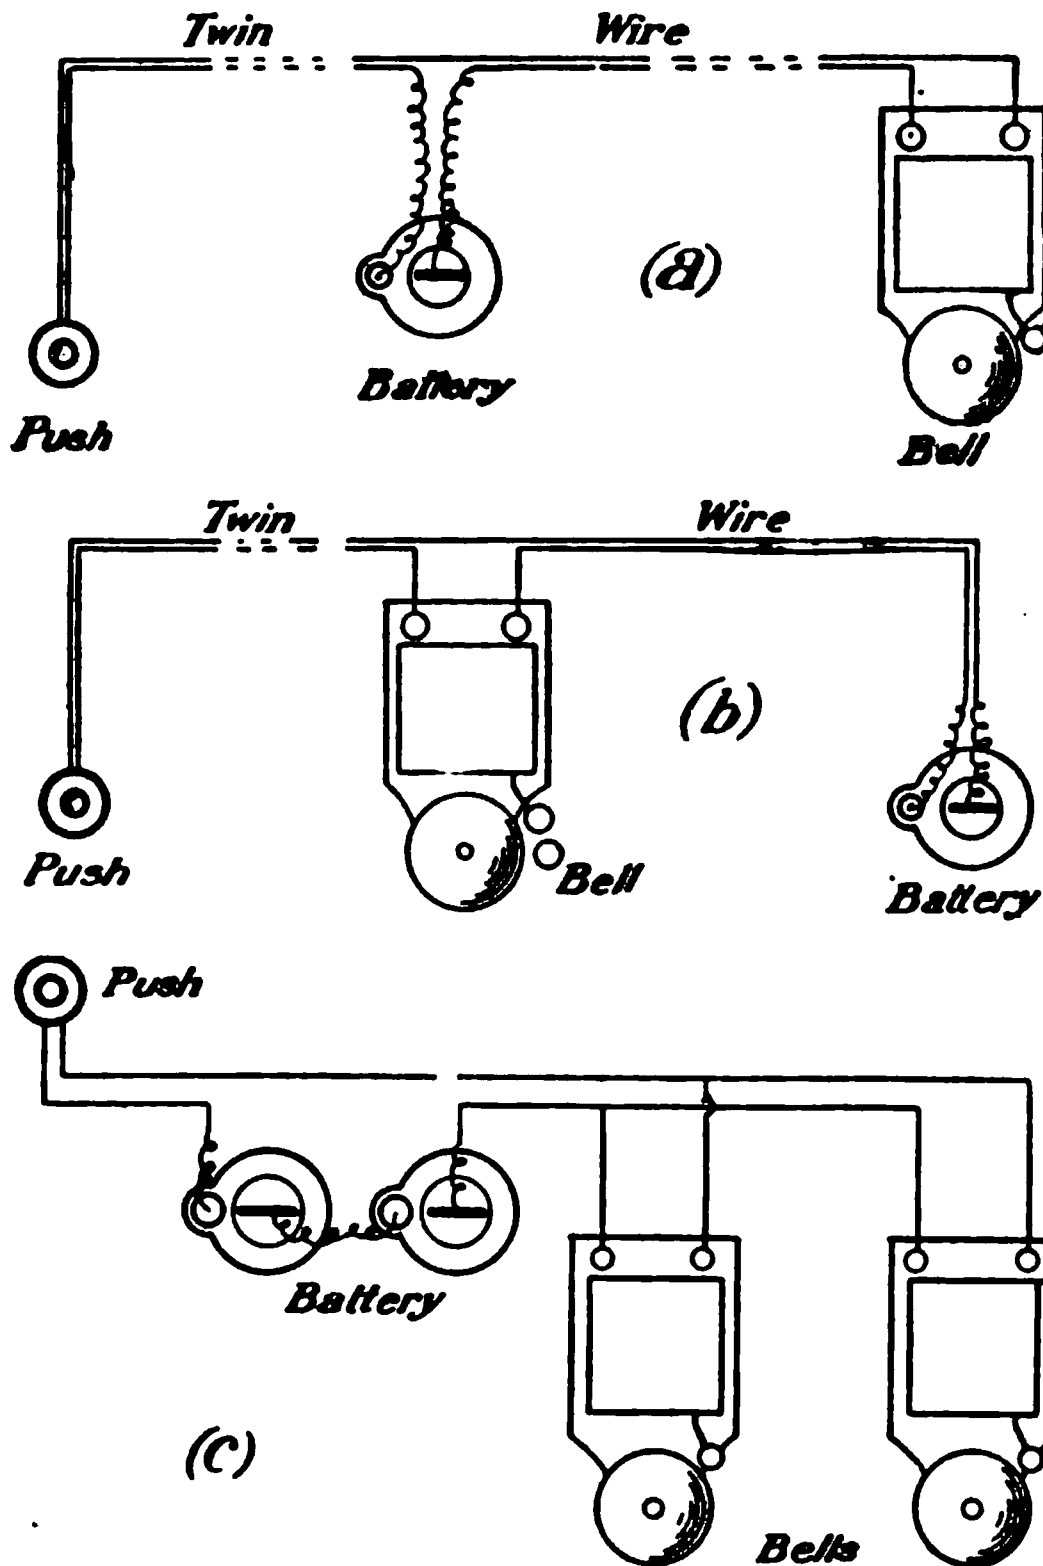

Fig. 120.—Electric-bell connections.
*Wire.*—The cheapest grades of insulated wire are to be avoided, as likely to give trouble. For single-circuit installations "twin" wire, with two wires separately insulated, but laid side by side (not twisted) in a common insulating cover, will be found most convenient. In a more elaborate installation it is advisable to use single wire throughout, reserving one colour—say blue—for all leads to one battery terminal and other colours for the leads running to the bell. (See Fig. 120, a.) This
*Connecting up.*—If a wet Leclanché cell be used and the wires pass through a cellar, the battery may be placed there, out of the way. To couple-up the battery, bare *one* of the wires for a few inches, cut it, and attach the ends to the battery terminal. The twin wire is then carried on to the bell and connected to its two binding posts (Fig. 120, *a*).
If the battery be beyond the bell, the connections are as in Fig. 120, *b*.
*Double-Bell Circuits.*—Fig. 120, *c*, shows the connections when two bells are worked by a single push or any one of a series of pushes on the same circuit.